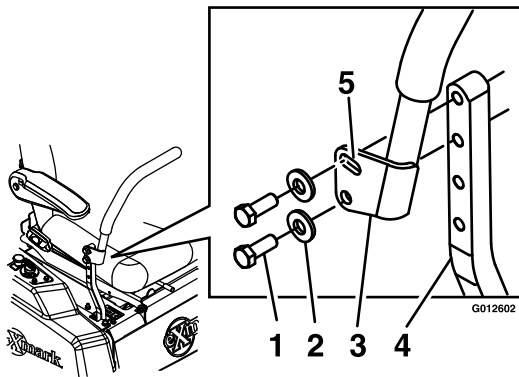

Figure 29
1. Remove the hardware holding the control lever to the control arm shaft (Figure 29).
2. Loosen the lower bolt just enough to pivot the control lever fore or aft Figure 29. Tighten both bolts to secure the control in the new position.